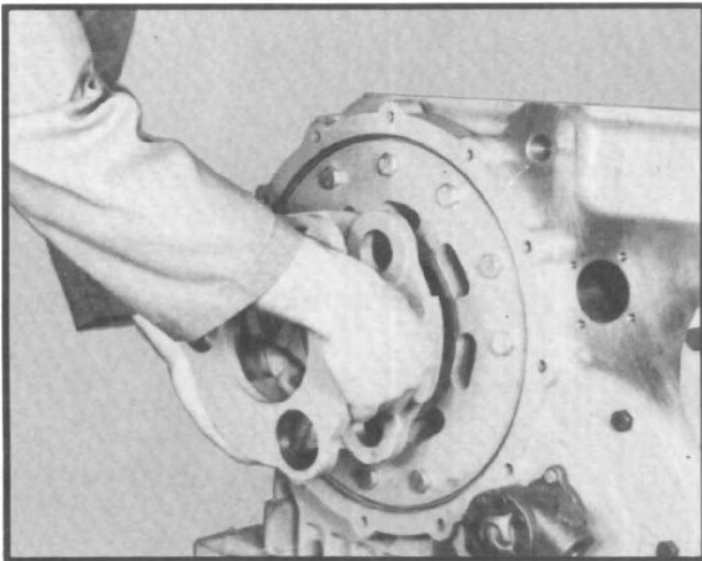

Fig. 67
- 3.14 Remove planet carrier from lower shaft. (See fig. 67.)